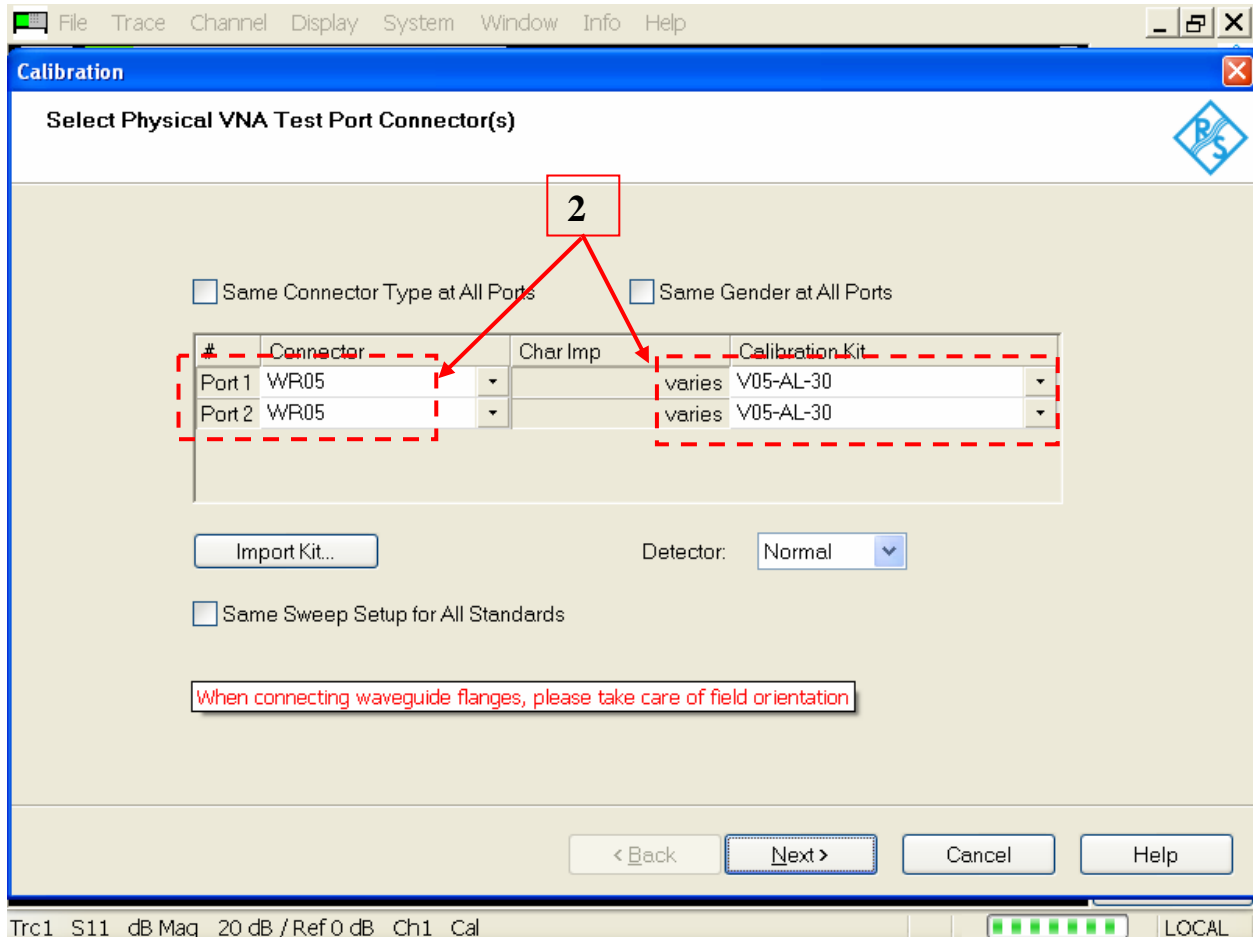

Figure 2 – Calibration Dialogue Table
2. Select Port 1 and Port 2 Connector Type to be “**WR05**” and Calibration Kit V05-AL-30 to Port 1 and Port 2 using the pull down arrow once **Calibration** table appears (Figure 2).